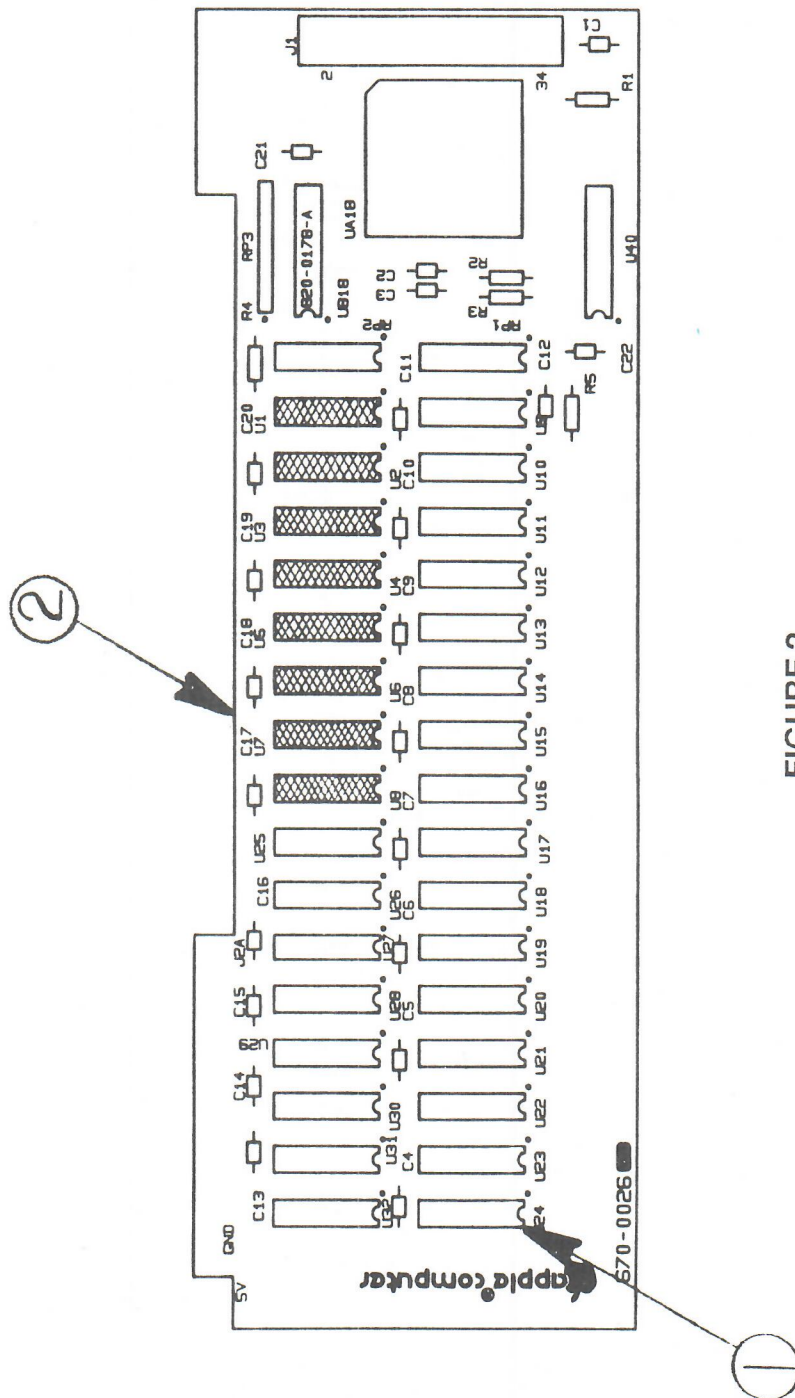

FIGURE 2
□ APPLE IIc – MEMORY EXPANSION CARD (Figure 2)
Note: The eight ICs that are shadowed in Figure 2 are soldered to the Memory Expansion Card. The 24 sockets on the card can be filled with 256K RAM ICs for memory expansion.